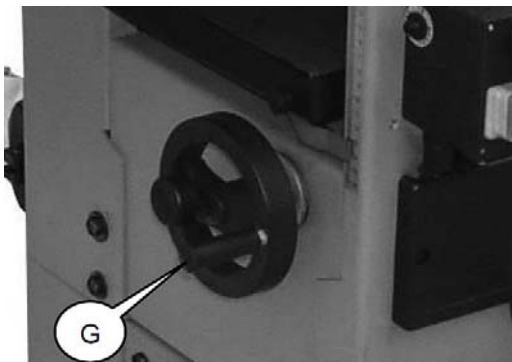

Fig. 27: Handwheel thickening table
Step 8: Use the handwheel (G, Fig.27) to set the thickening table to the desired height.